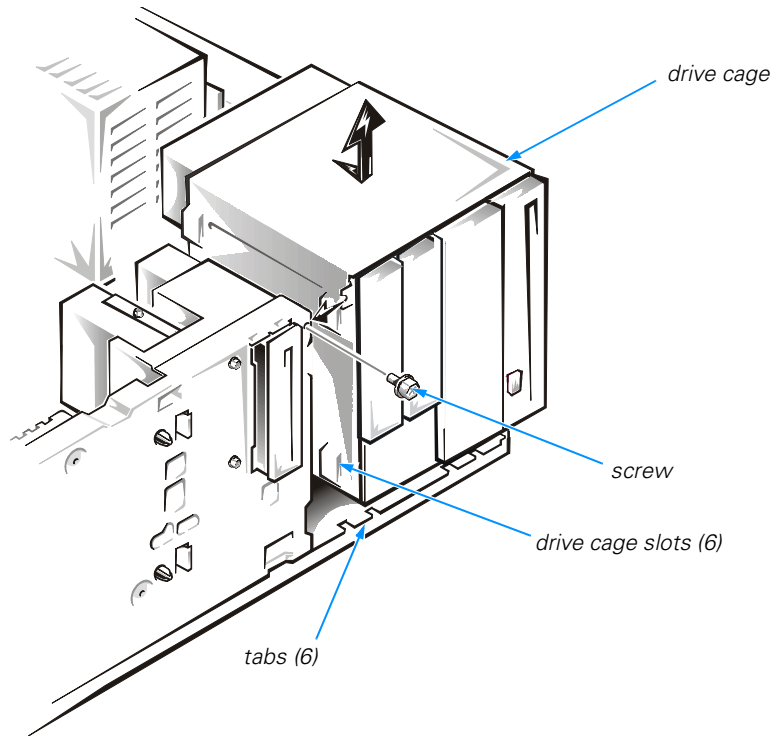

Figure 3-2. Removing the Drive Cage
The drive cage (see Figure 3-2) holds the externally accessible drives except for the standard 3.5-inch diskette drive. It holds up to two half-height, 5.25-inch devices and two 3.5-inch devices in the mini tower chassis. In the desktop chassis, it holds up to two half-height, 5.25-inch devices and one 3.5-inch device. The drive cage must be removed to install a drive in one of its bays.
3. Remove the screw at the side of the drive cage (see Figure 3-2).